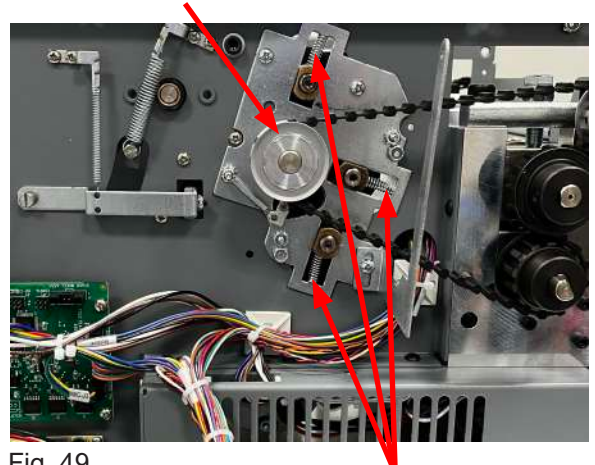

Fig. 49
4. On Operator side using an Allen wrench remove sealer belt and pulley (Fig. 49). (See sealer belt replacement, pg. 23).